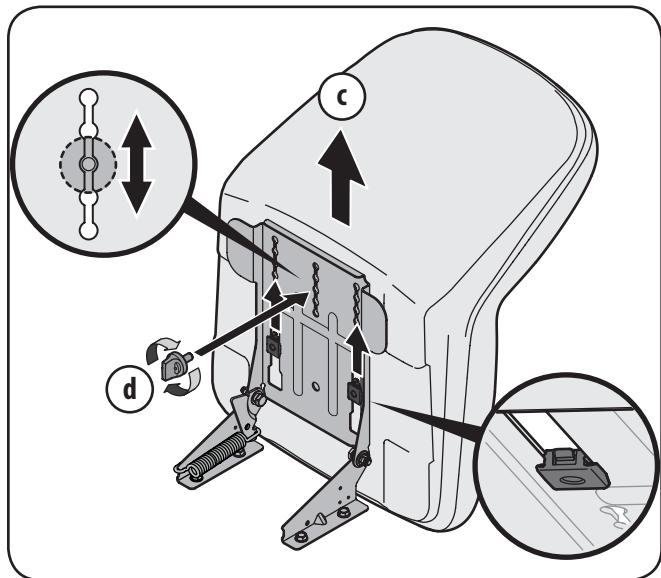

Figure 3-5
3. Slide the seat rearward in the seat pivot bracket (c), lining up the center rear slot in the pivot bracket with the remaining hole in the seat's base. See Figure 3-5.
Note: Be certain the two seat tabs engage the pivot bracket as shown in the bottom inset of Figure 3-5.
4. Select desired position for the seat, and secure with the adjustment knob removed earlier (d in Figure 3-5).
5. To adjust the position of the seat, remove the adjustment knob on the bottom of the seat. Slide the seat forward or backward as desired. Reinstall the adjustment knob. See Figure 3-5.